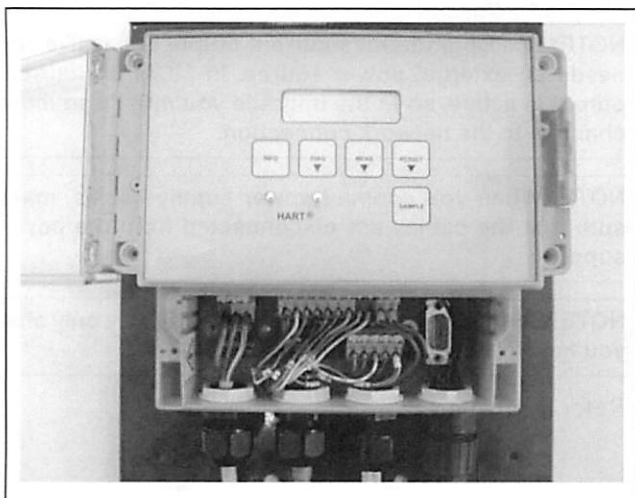

Fig. 2.
- MCAi Display Unit: Disconnect the power supply from the power supply cables coming into the device. Open the connector casing cover (Figure 2).